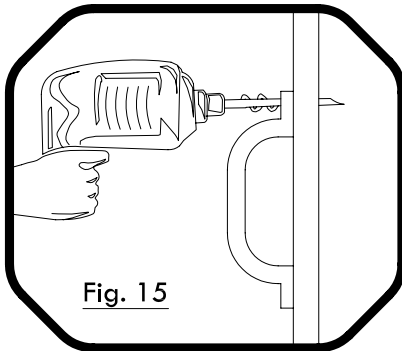

Fig. 15
Step 4: The two Wall Slats 'V' over the Deck Ladder and Rockwall will take Hand Grips. Center (1) Hand Grip on each wall slat, and using the holes in the Grips as a guide, drill 5/16" holes through the Wall Slats. (see Fig. 15)